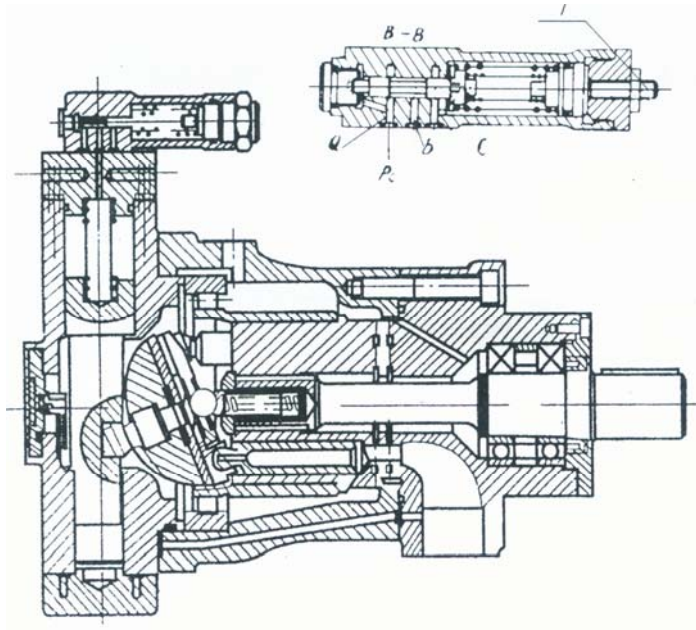

Figure 6 PCY14-1B (Constant Pressure Variable Displacement) Axial Pistion Pump
4.5 MYCY14-1B type fixed step variable displacement axial piston pump(Figure6):
4.6 PCY14-1B Type (Constant Pressure Variable Displacement) Axial Pistion Pump (Figure 6)